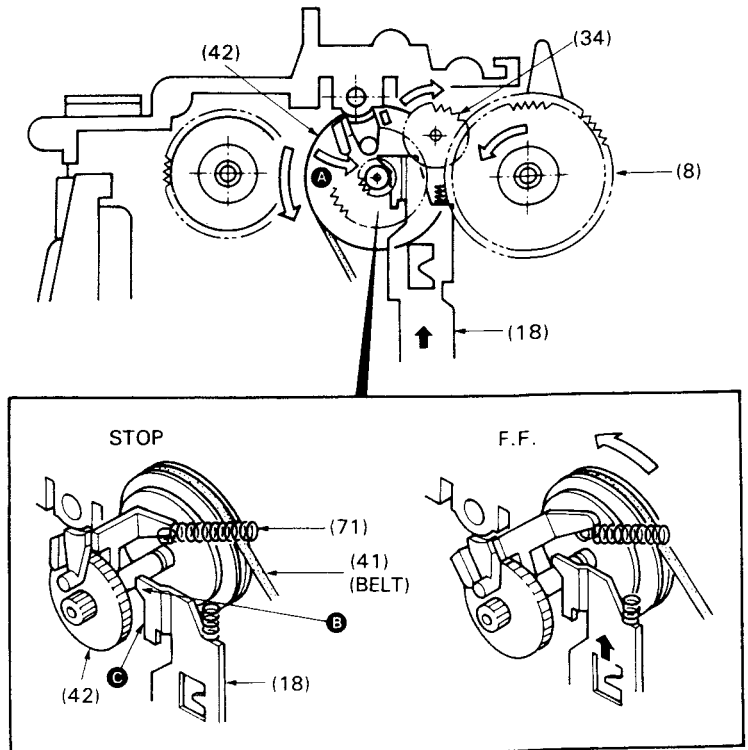

Fig. 4 F.F.
3. FF (Fast-Forward) Operation (Fig. 4)
- 3-1. The CLUTCH ASS'Y (42) is stretched in the direction of ⇨ (A) by the resultant of the SPRING (71) and the FR BELT (41).
- 3-2. In the stop mode, the CLUTCH ASS'Y (42) stops at the neutral position by the lug (or protrusion) (B) of the FF LEVER (18).
- 3-3. When the FF LEVER is pressed and locked, the CLUTCH ASS'Y (42) falls down into the concave section (C) of (18).
- 3-4. The gear of the CLUTCH ASS'Y (42) is engaged with the FF GEAR (34).
- 3-5. The rotation of the FLYWHEEL (7) is transmitted to the T REEL ASS'Y (8) via the CLUTCH ASS'Y (42) and the FF GEAR (34).
- 4-1. The CLUTCH ASS'Y (42) is stretched in the direction of ⇨ (A) by the resultant of the SPRING (71) and the FR BELT (41). (Fig. 4)
- 4-2. In the stop mode, the CLUTCH ASS'Y (42) stops at the neutral position by the lug (or protrusion) (B) of the FF LEVER (18). (Fig. 4)
- 4-3. When the REW LEVER (17) is pressed and locked, the CLUTCH ASS'Y (42) is rotated in the direction of (B) against the force of SPRING (71) due to slope (A).
- 4-4. The gear of the CLUTCH ASS'Y (42) is engaged with the gear of the S REEL ASS'Y (9).
- 4-5. The rotation of the FLYWHEEL (7) is transmitted to the S REEL ASS'Y (9) via the CLUTCH ASS'Y (42).